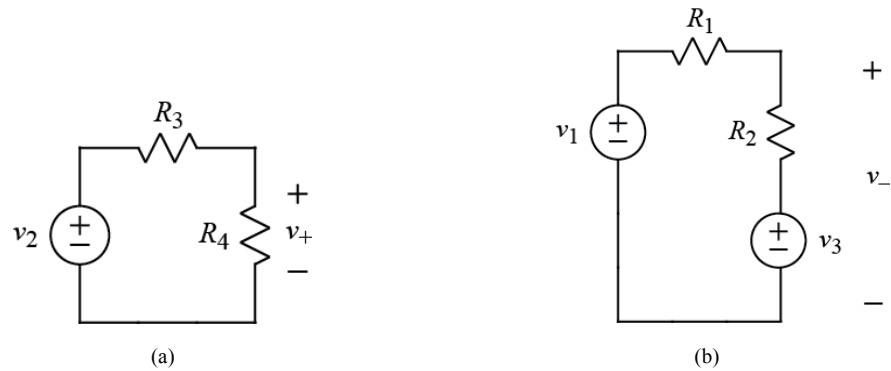

Figure 11. Sub circuits for analyzing differential amplifier: (a) v_+ value, (b) v_- value.
- 1) Use the circuit model in Fig. 11(a) and the voltage-divider formula to find voltage drop v_+ across R_4 .
- 2) Use the circuit model in Fig. 11(b) and Kirchhoff's and Ohm's law to find voltage drop v_- across R_2 and v_3 . In other words, v_- is the sum of the voltage drops across R_2 and v_3 .